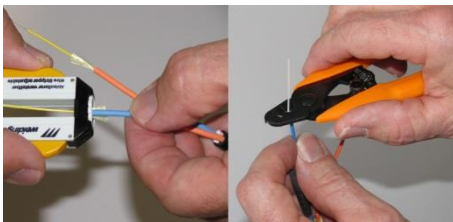

Figure 9
3.1. Remove the secondary coating with the stripping tool for secondary coating down to 22mm. Remove the primary coating with the stripping tool down to min. 23mm (figure 9).